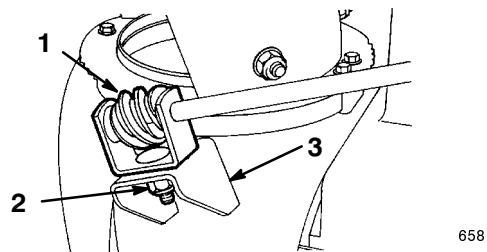

Figure 11
- Apply No. 2 general purpose grease to the worm gear (Fig. 11).
- Loosely mount the worm gear and the bracket to the mounting flange with a bolt, a pyramidal washer, and a locknut (Fig. 11).
- Slide the worm gear into the teeth of the chute retaining ring and tighten the locknut (Fig. 11).